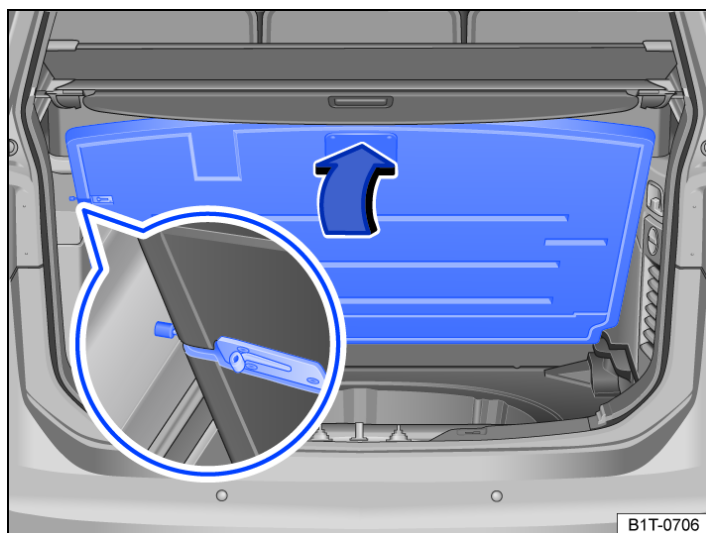

Fig. 2 In the luggage compartment: floor covering held in upright position.
- Release the retaining pin → Fig. 2 (close-up) by pressing to the left and place on the left shelf.